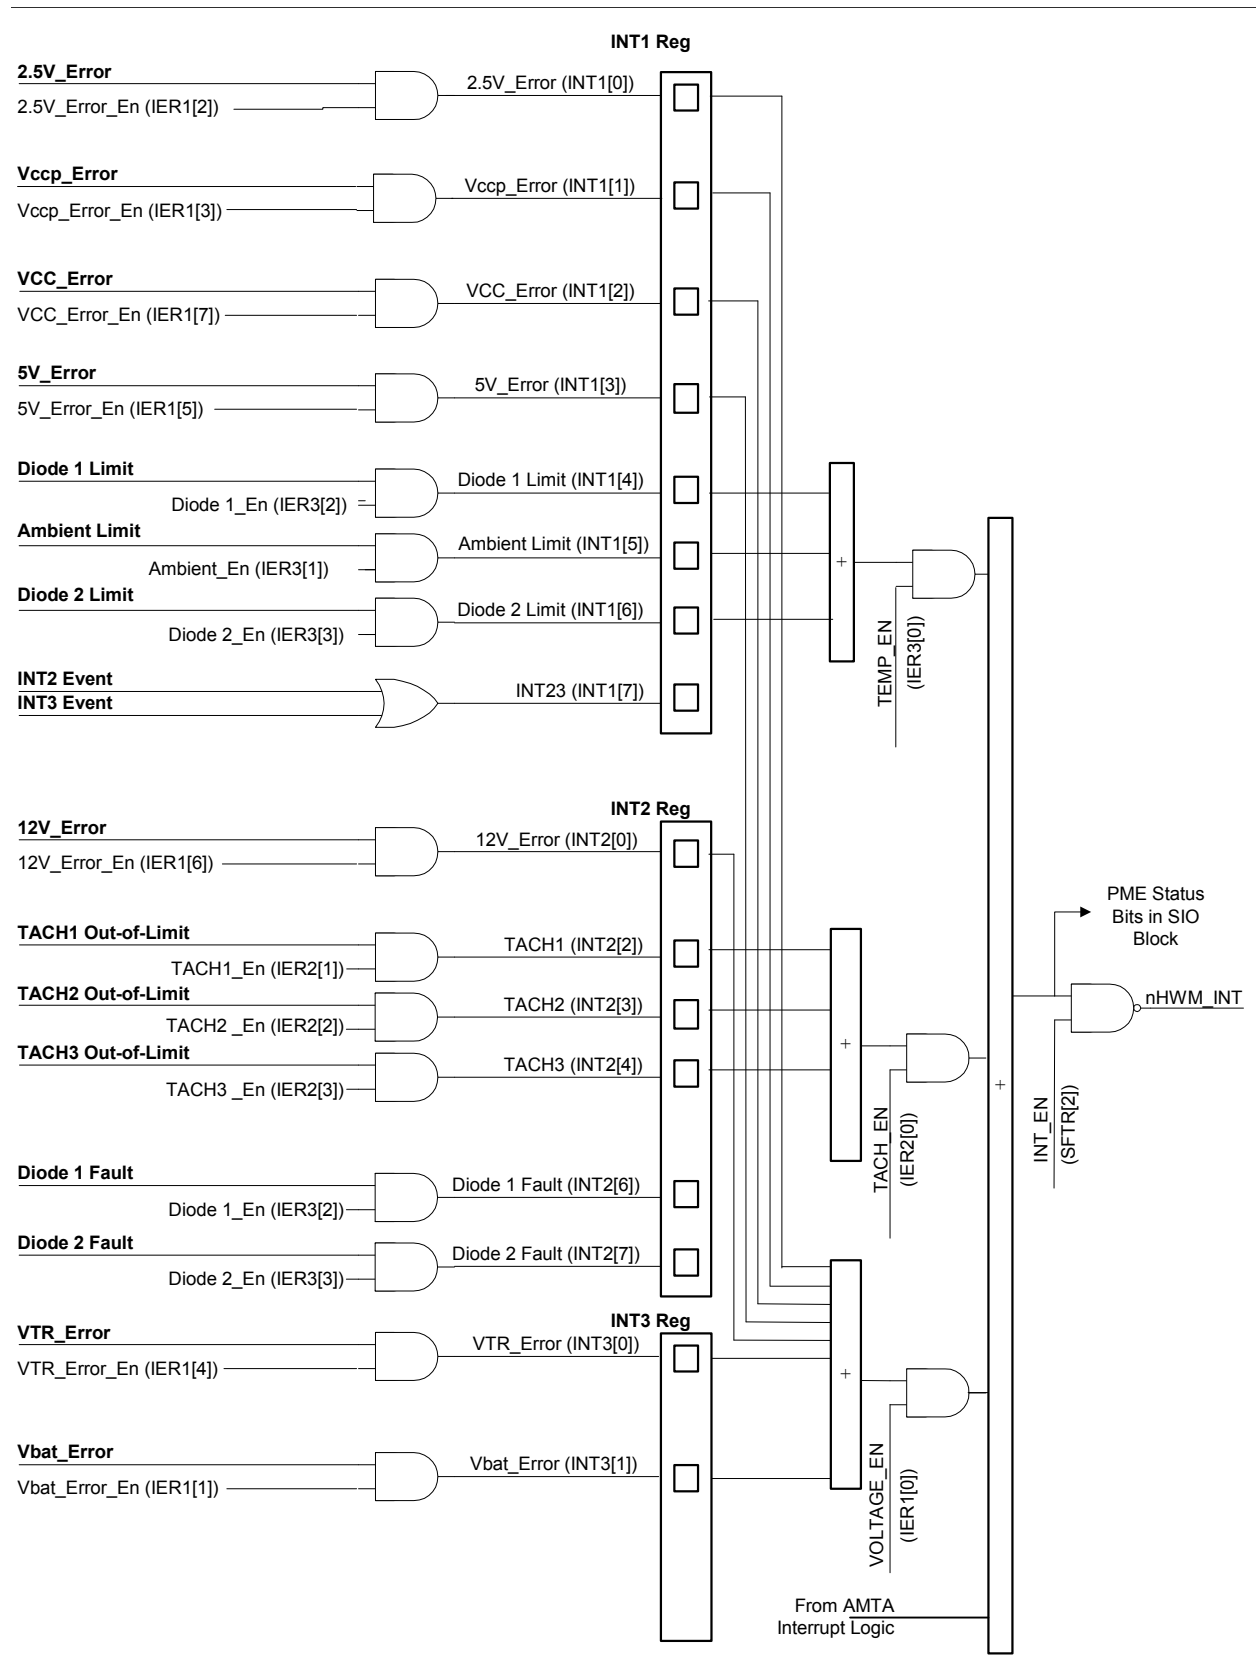

Figure 23.3 Interrupt Control
- The Primary Interrupt Status registers, and the Top Temp Status register may be used to generate a HWM Interrupt event (HWM_Event). A HWM Interrupt Event may be used to generate a PME, SMI, Serial IRQ, or nHWM_INT event. Figure 23.3, "Interrupt Control" shows the Interrupt Status registers generating an interrupt event. To see how the Top Temp Status register generates a Top_Temp_Event see Figure 23.9 AMTA Interrupt Mapping on page 216.
See Figure 23.3 on page 193. The following description assumes that the interrupt enable bits for all events are set to enable the interrupt status bits to be set and no events are being masked.
The hardware monitoring interrupt signal is routed to the SIO PME block. For a description of these bits see the section defining PME events. This signal is unaffected by the nHWM_INT pin enable (INT_EN) bit (See Figure 23.3 Interrupt Control on page 193.)
The hardware monitoring interrupt signal is routed to the SIO SMI block. For a description of these bits see the section defining SMI events. This signal is unaffected by the nHWM_INT pin enable (INT_EN) bit (See Figure 23.3 Interrupt Control on page 193.)
The hardware monitoring interrupt signal is routed to the Serial IRQ logic. This signal is unaffected by the nHWM_INT pin enable (INT_EN) bit (See Figure 23.3 Interrupt Control on page 193.)